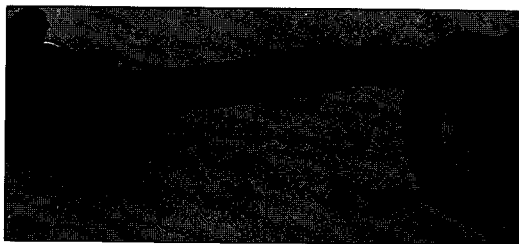

Fig. 40-2
- check that there are no signs of nicks or cuts (Fig. 40-2),